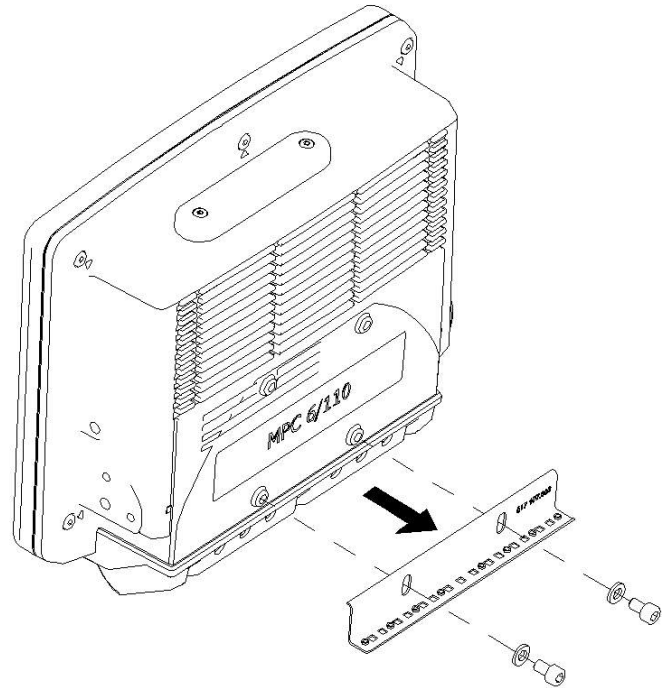

Figure 6
Step 1: Remove Cable Bracket from 8580/8590 VMT: Before installing RAM Vesa Base (E), **REMOVE** screws, washer and cable bracket from terminal. See **Figure 6**